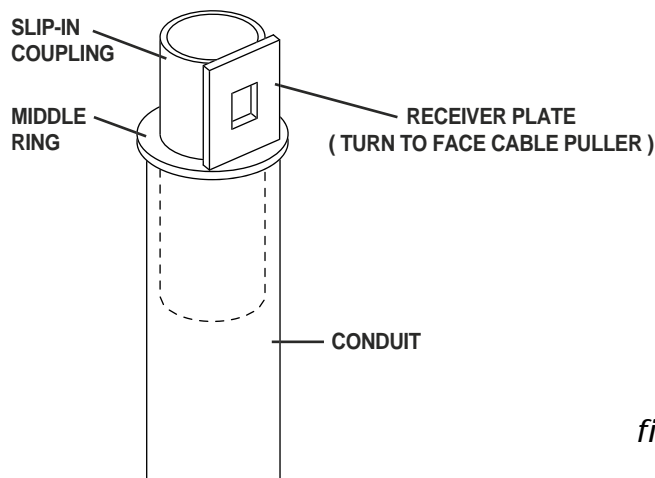

figure 11
2. Place the Slip-In Coupling into the conduit until the middle ring rests against the end of the conduit. Then, turn the coupling until the receiver plate faces the direction where the puller will be positioned. (See Figure 11.)